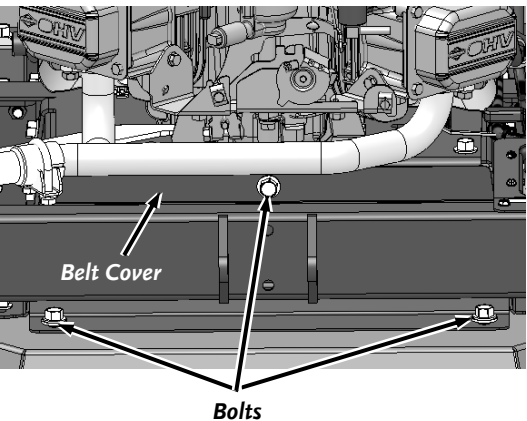

Figure 35
5. At the back of the machine, use a 9/16" Wrench to remove the three Bolts securing the Belt Cover and set the Belt Cover aside (**Figure 35**).